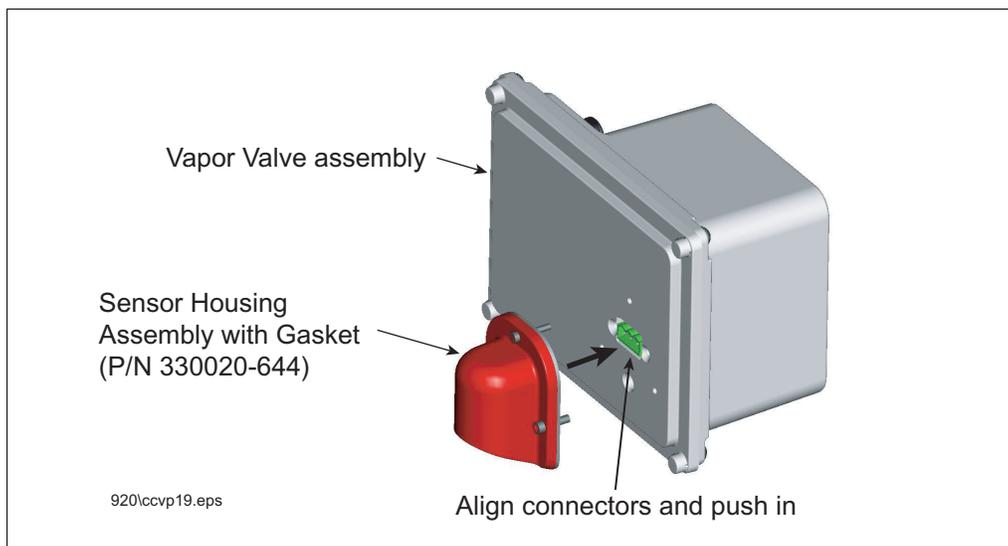

Figure 10. Replacing Sensor Housing Assembly
3. Align the replacement Sensor Housing assembly's connector with the connector in the Vapor Valve assembly and push in the assembly until it seats against the Vapor Valve assembly (see Figure 10).